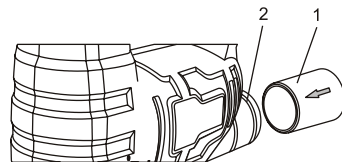

Fig. 10
To install the vacuum adaptor (1), insert the adaptor into the vacuum port (2) in the rear of the jigsaw housing (Fig. 10).